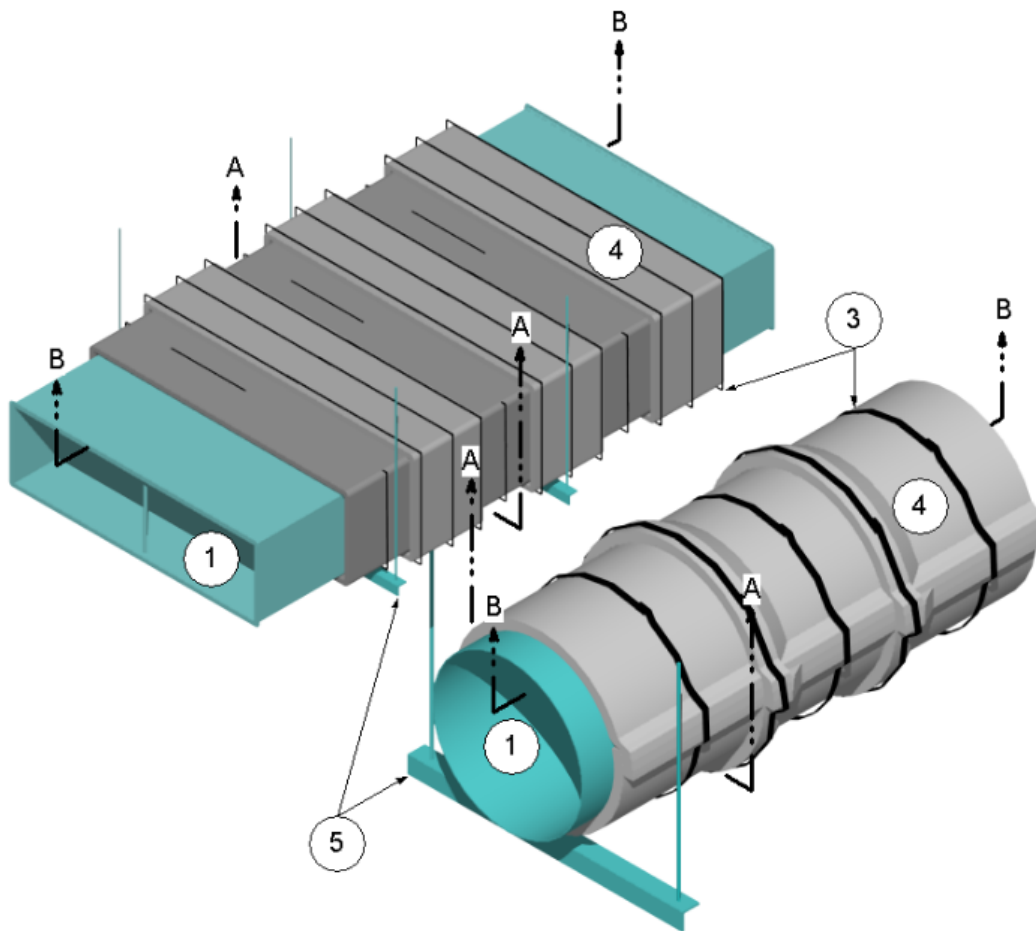

Figure 1
1. VENTILATION DUCT: Refer to Figure 1. Continuous, air-tight, rectangular or circular duct system with either horizontally or vertically oriented shafts constructed of sheet steel with a maximum area and a maximum dimension as referenced in the Table 1. When required, equip the ventilation duct with transition fittings, e.g. elbows, tees, reducers, etcetera.